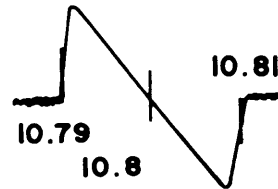

Figure 3
5. Connect scope to pin TP-2 and adjust T3 so that 10.8MHz is in center of discriminator curve and for best linearity. See Figure 3.